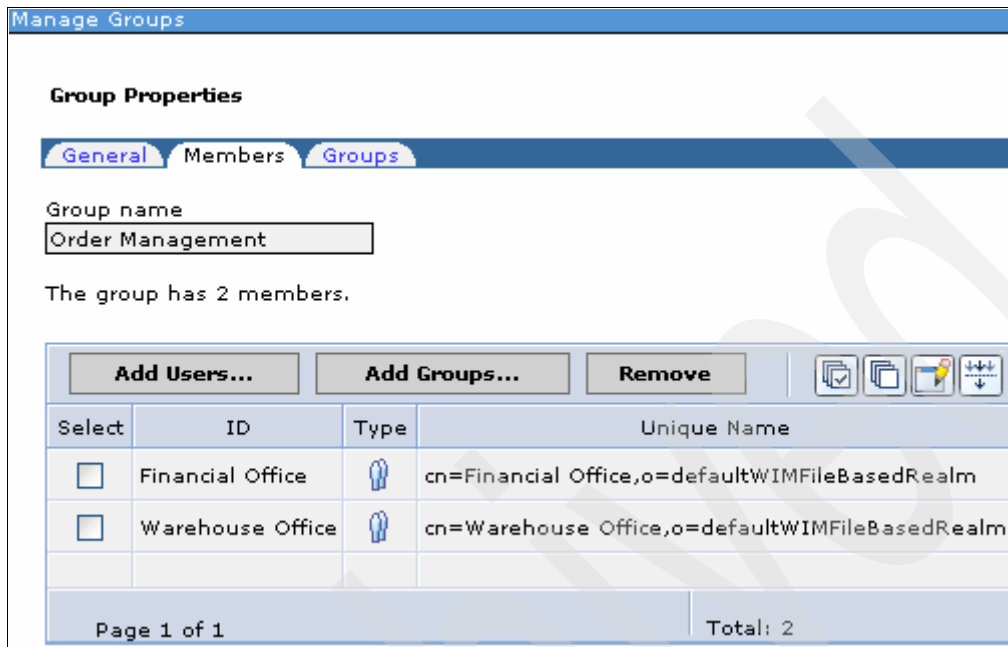

Figure 3-145 Order Management's members
11. Close the window and verify the members of the Order Management group as shown in Figure 3-145.